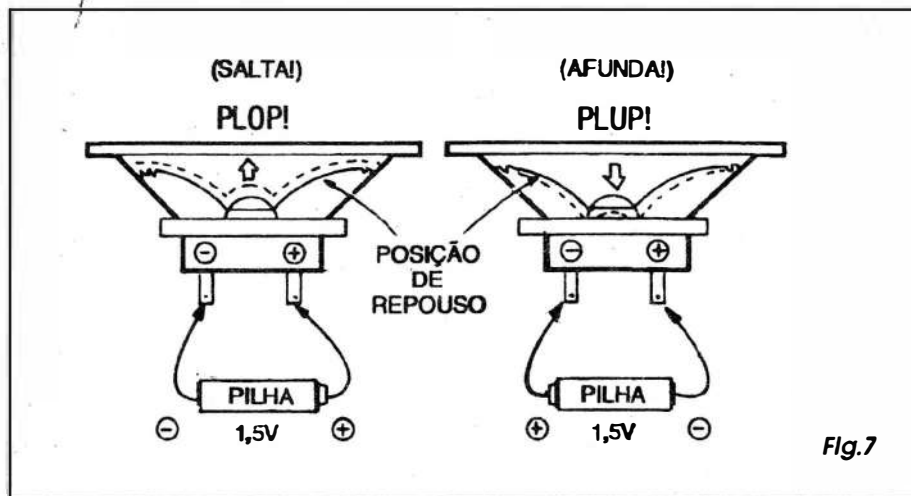

Fig. 7
- FIG. 7 - A POLARIDADE (OU FASE...) DOS ALTO-FALANTES...